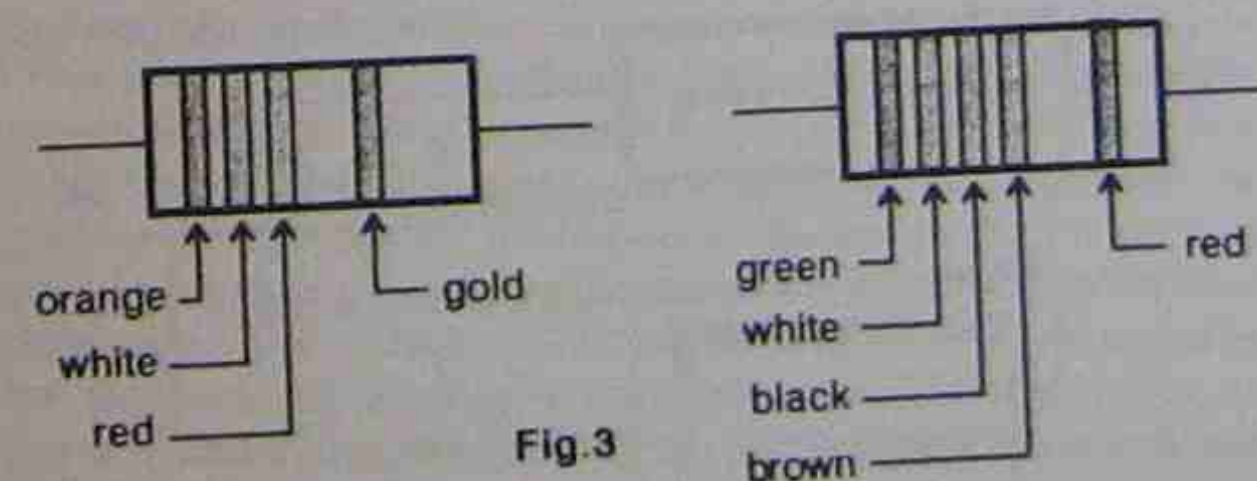

Fig.3
- Determine the values of the resistors shown in Fig.3.